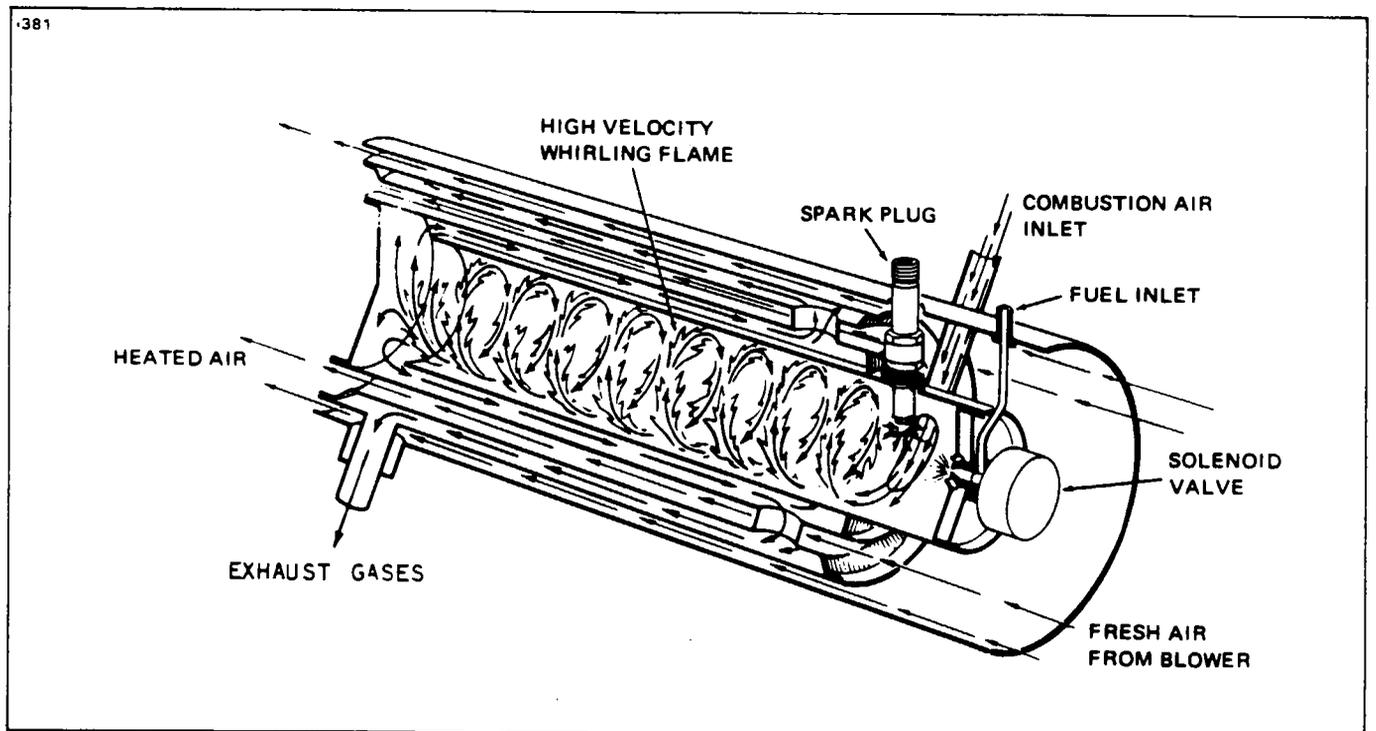

Figure 21-7. Diagrammatic Cutaway of Heater to Show Whirling Flame Action
**SPARK-SPRAY IGNITION.** (Refer to Figure 21-7.)